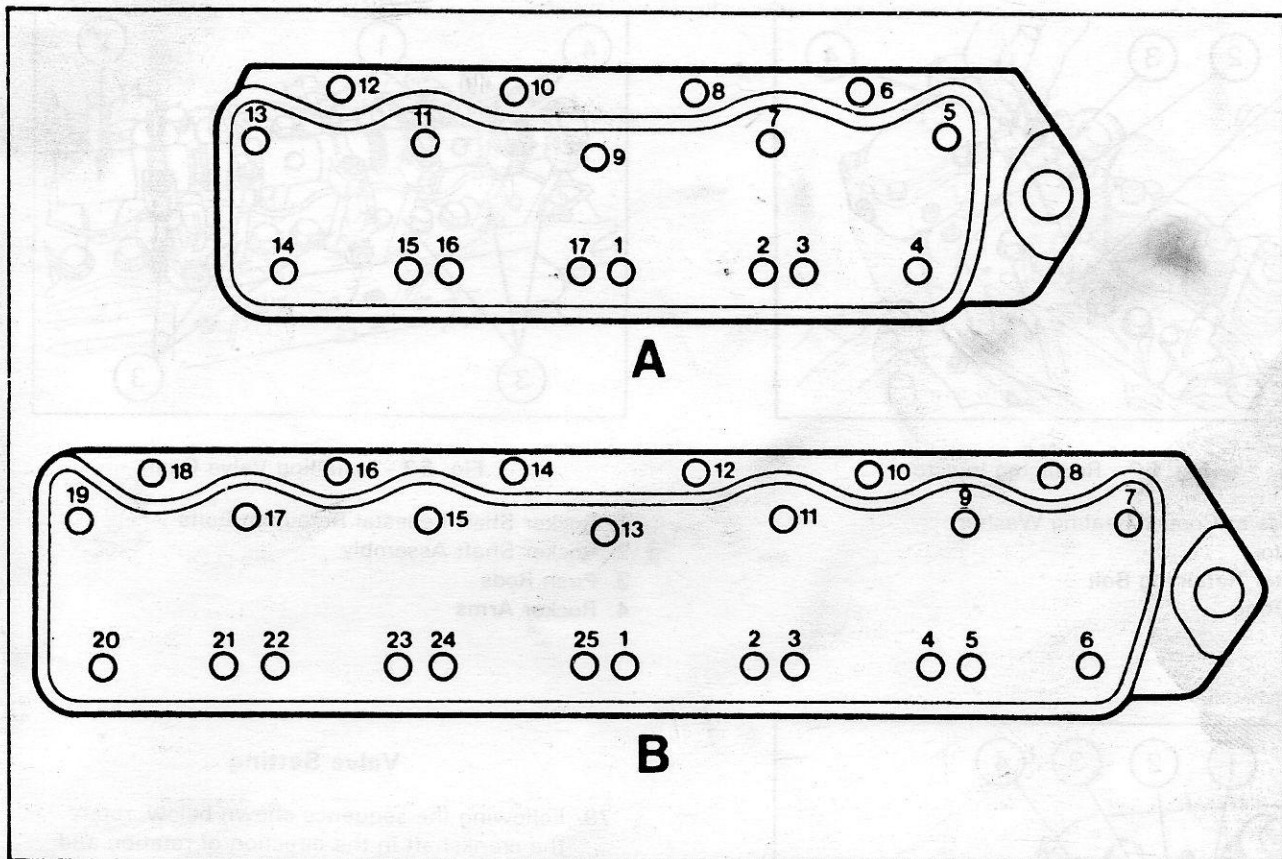

Fig. 49 - Cylinder Head Bolt Tightening Sequence
71. Tighten the cylinder head bolts by increments, in the sequence shown in Fig. 49 to the specified torque.